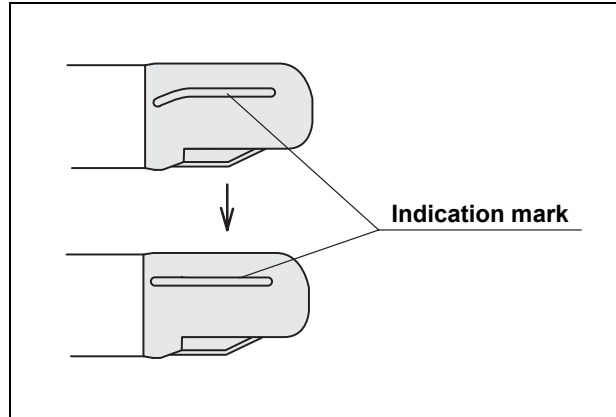

Figure 3.21
8. Hold the bottom end of the distal cover and turn it to adjust the indication mark to the straight position as shown in Figure 3.21.